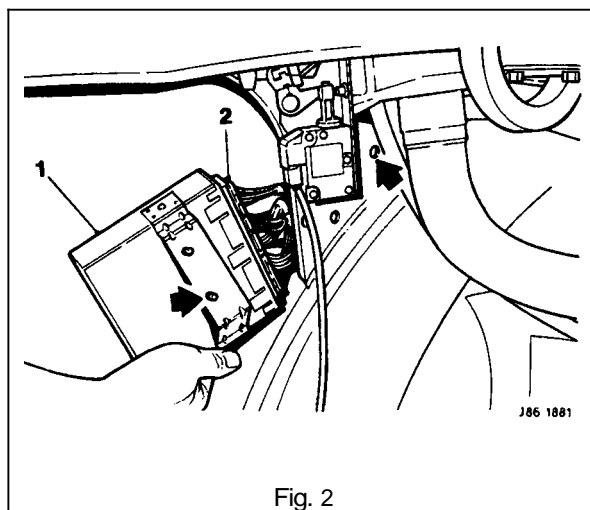

Fig. 2
- Undo and remove the inclination sensor securing nuts (2 Fig. 1) and displace the sensor (3 Fig. 1) to gain access to the SLCM (1 Fig. 2).
- Displace the SLCM. Identify the SLCM multi-plugs (2 Fig. 2) for subsequent reconnection. Disconnect the multi-plugs and remove the SLCM.
**Note:** The arrows on Fig. 2 show the position of the mounting bolts and mounting holes.
- Remove the hand transmitter rear cover (1 Fig. 2).